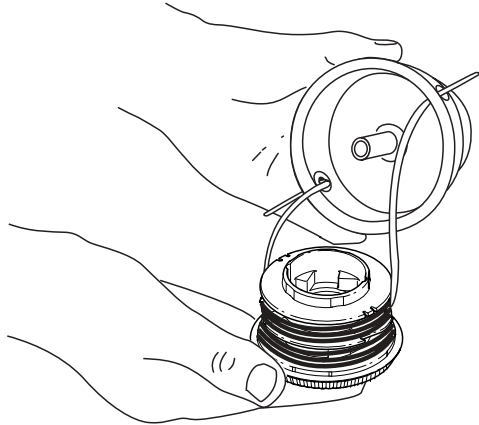

Fig. 19
3. Insert the ends of the prewound inner reel line into the outer spool eyelets (Fig. 19). Push the new inner reel, arrow side up, into the outer spool.
3. Pull the inner reel with existing line from the outer spool (Fig. 19).